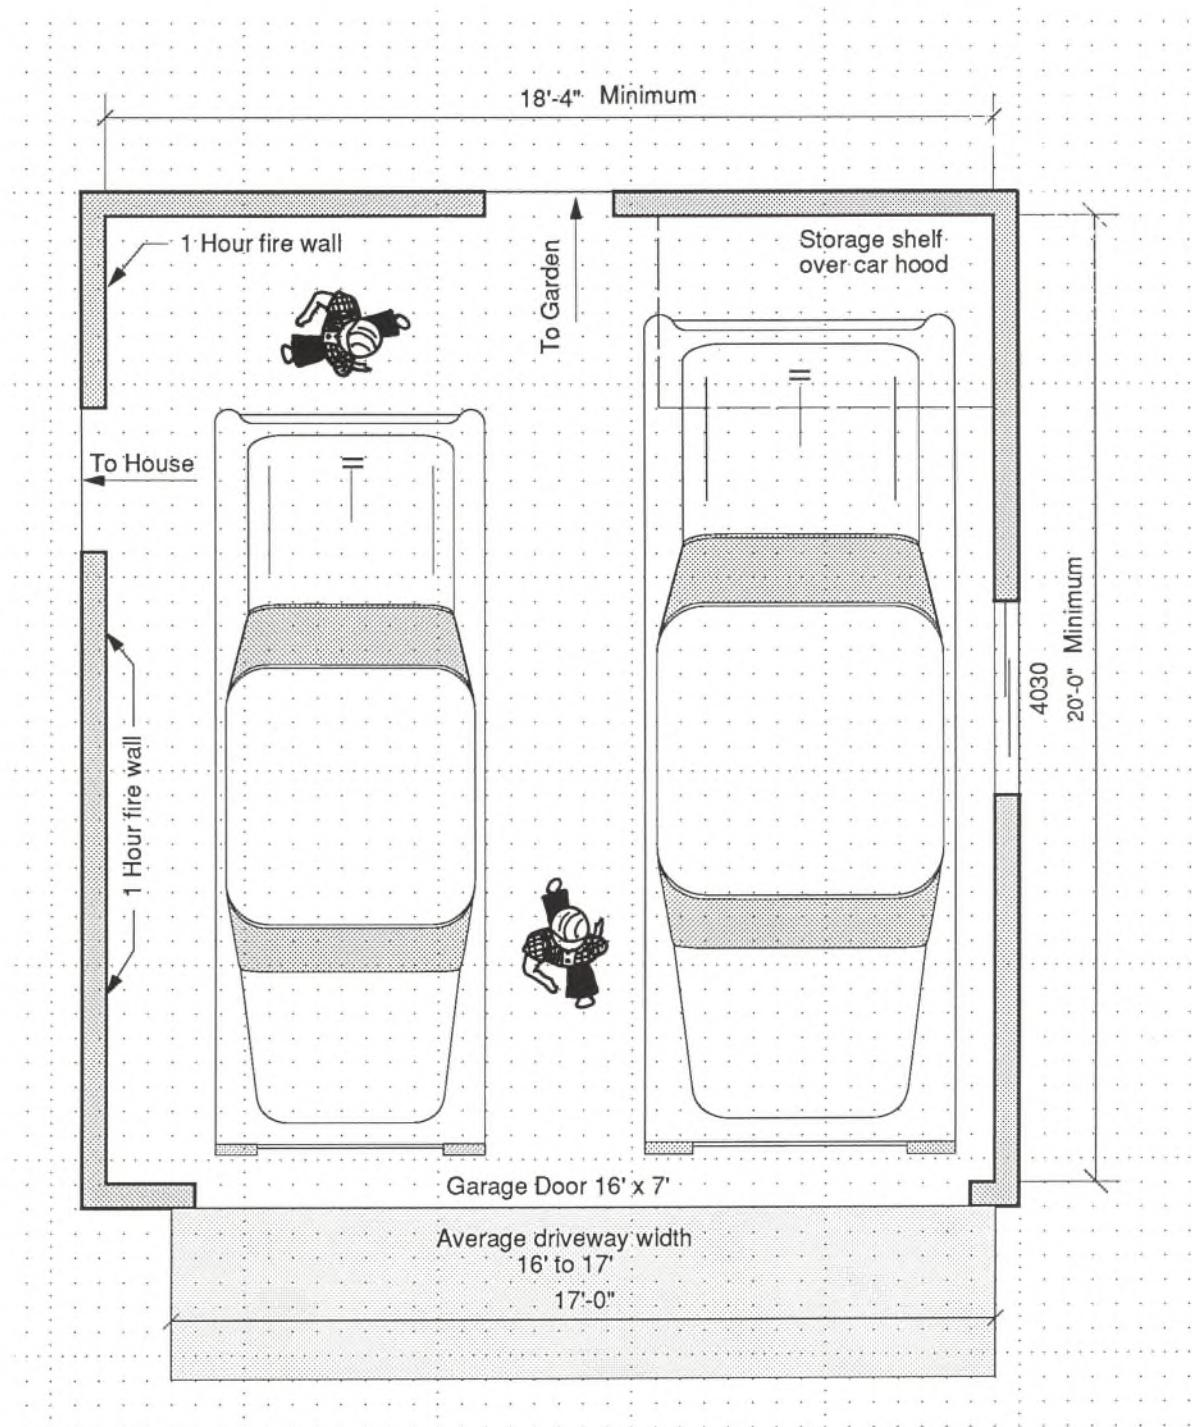

Fig. 15.2 Minimum size for a two car garage.
5. By placing the garage door as close as 6" to the right-side corner of the garage, as in Fig. 15.2, maximum use of this minimum garage space is permitted. When a garage is planned in this way, the drivers of both cars can get out of the car on the left side.